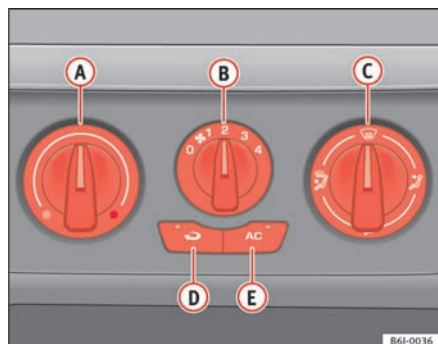

Fig. 84 On the dash panel: Heater controls
- Using the controls ⇒ fig. 84 (A) and (C) and with the switch (B) you can adjust the temperature, the air distribution and the blower speed.
- Press the button (D) to switch air recirculation mode on or off. When the function is activated, a warning light on the button is turned on.